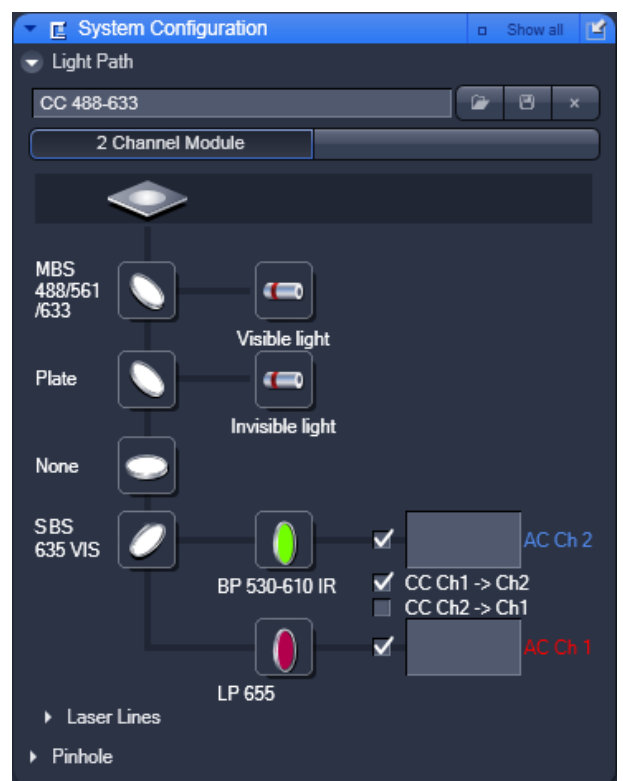

Fig. 9-20 System Configuration tab - Light Path panel opened for the "2 Channel Module" ConfoCor 3
- Click on the **Light Path** tab to open the **Light Path** configuration panel (Fig. 9-20). Click on any other register to leave the panel.